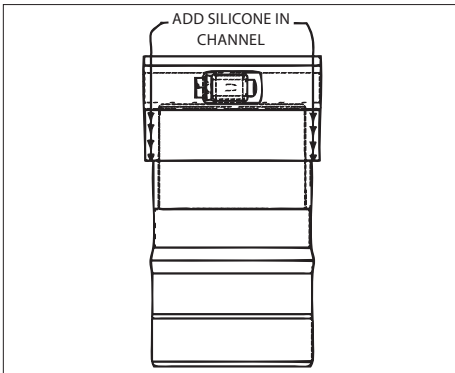

Figure 13
4. Apply RTV 500 silicone in the channel of the Male Flex Adapter adapter (between the inner and outer tubes) as seen in **Figure 13**.